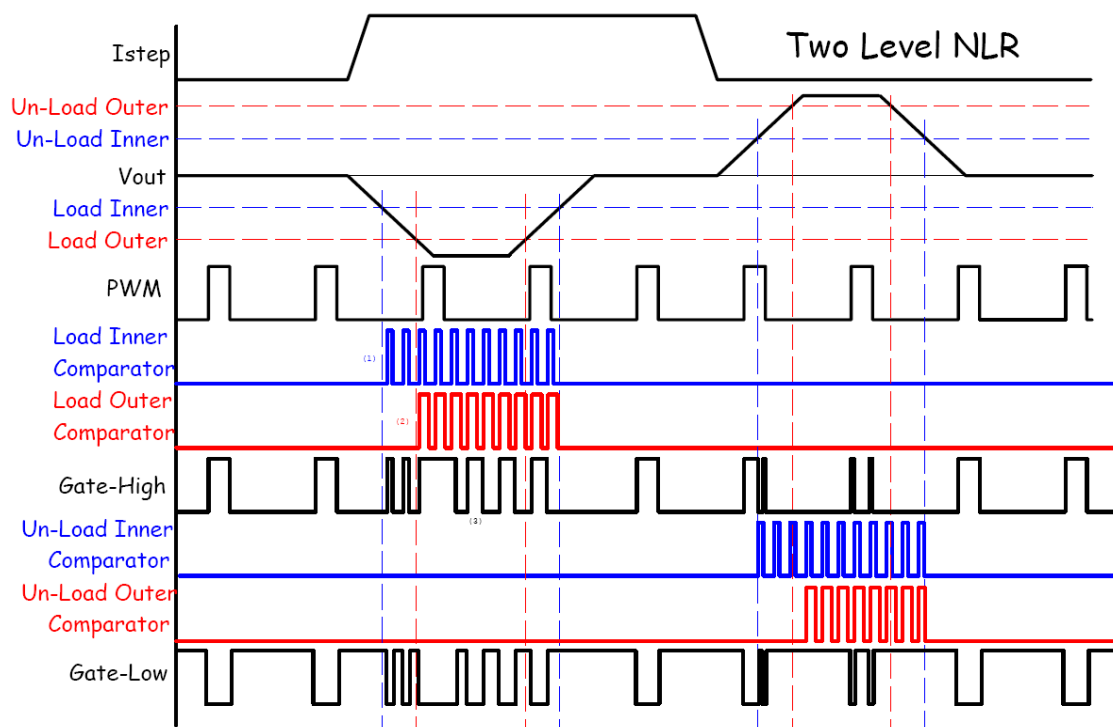

Figure 4. Two Level NLR
- 2) *Two level* (Mode 2) – inner and outer thresholds set, inner and outer correction times set. Generally, the inner correction times will be smaller than the outer correction times. The result should be smaller pulses between thresholds, then larger pulses until the output returns below the inner threshold. This mode is useful as a graduated response to large transients. See Figure 4 on page 5.